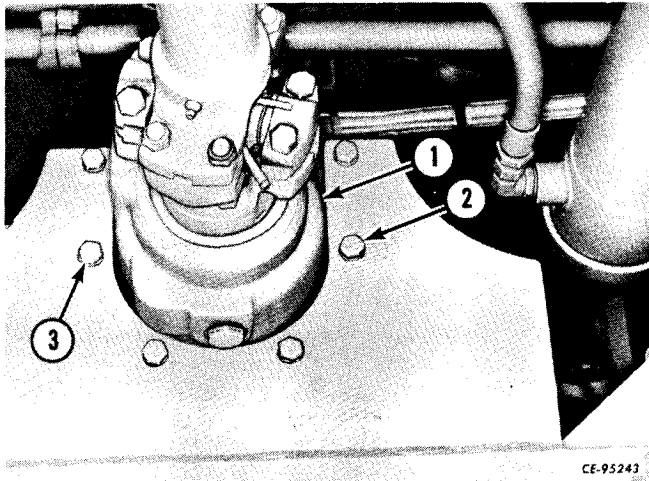

Figure 5-42
Install the transfer drive in the tractor frame crossmember. Install the cap screws (3, Fig. 5-42), hose support (2), and cap screws and lock washers (1). Torque the cap screws. Refer to "SPECIAL TORQUES" in this section.